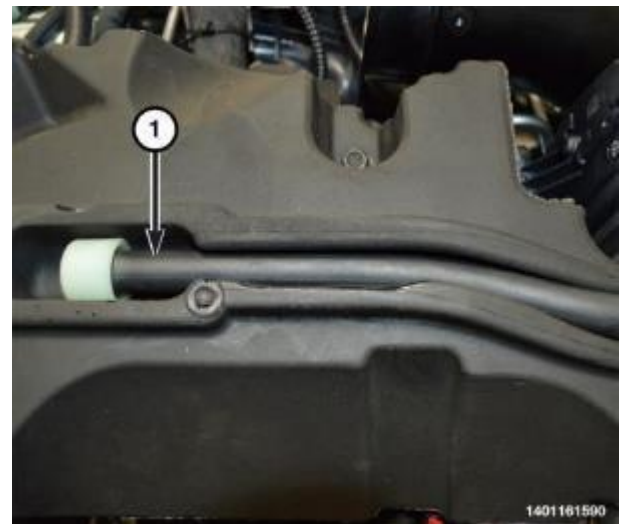

Figure 153 – Left Bank Fuel Rail Cover
- 17. Remove the vent hose (1) from the left fuel rail cover (Figure 153).